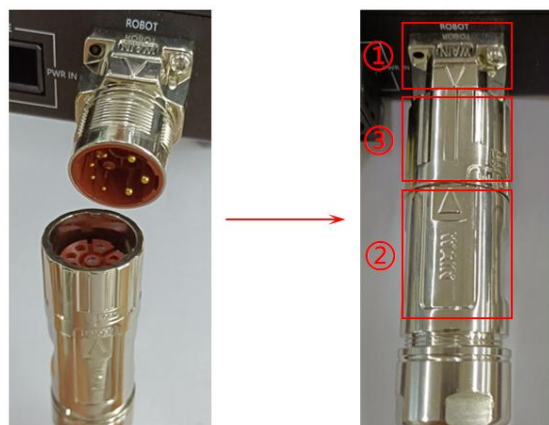

Figure 75 Cable connection diagram of the robotic arm
- As shown in Figure 75, align the arrow ② on the end connector of the robotic arm with the arrow ① on the connector at the [ROBOT interface] on the control cabinet, press down into place, and then rotate ③ clockwise by 90° (in the locked state).